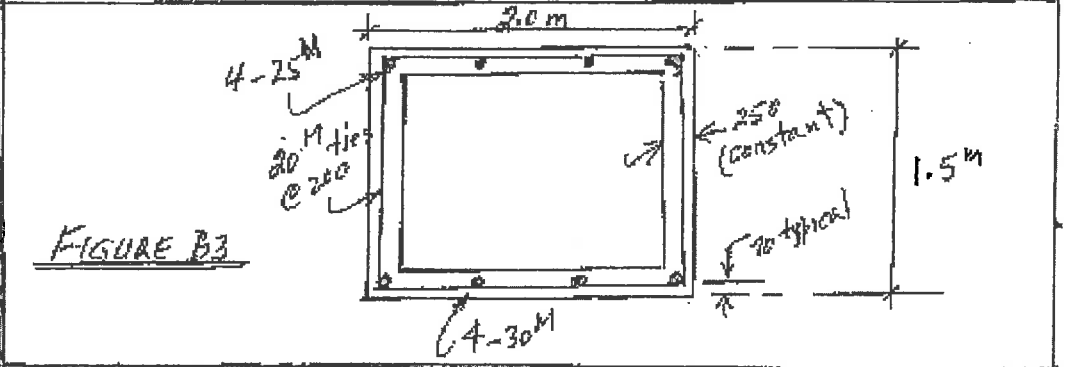

FIGURE B3
- B3. Figure B3 shows the cross-section of a reinforced concrete culvert. For the given dimensions and steel reinforcing, calculate its moment ( $M_r$ ) and shear ( $V_r$ ) resistances. Use  $f'_c = 35$  MPa and  $f_y = 400$  MPa.